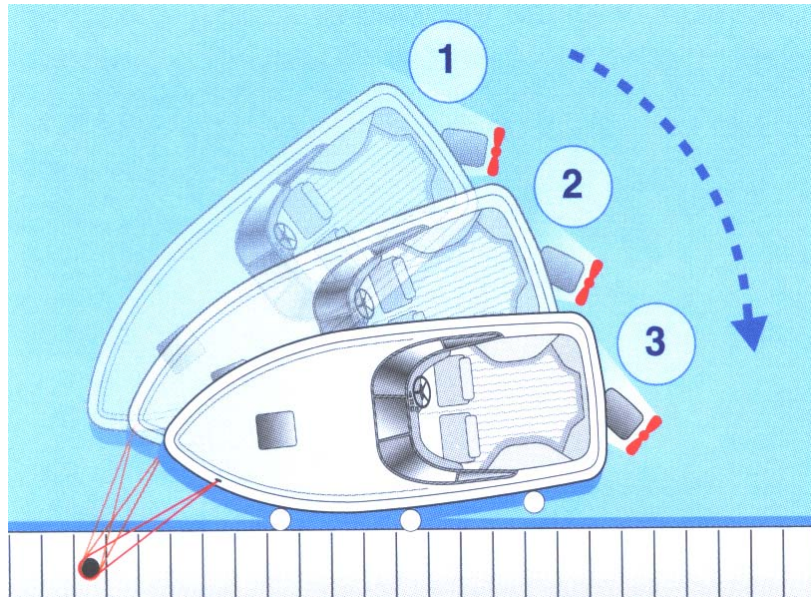

Figure 16 Returning to a Dock With Wind
2. Turn the engine toward the dock. Alternate between NEUTRAL and ASTERN (as illustrated in Figure 16).